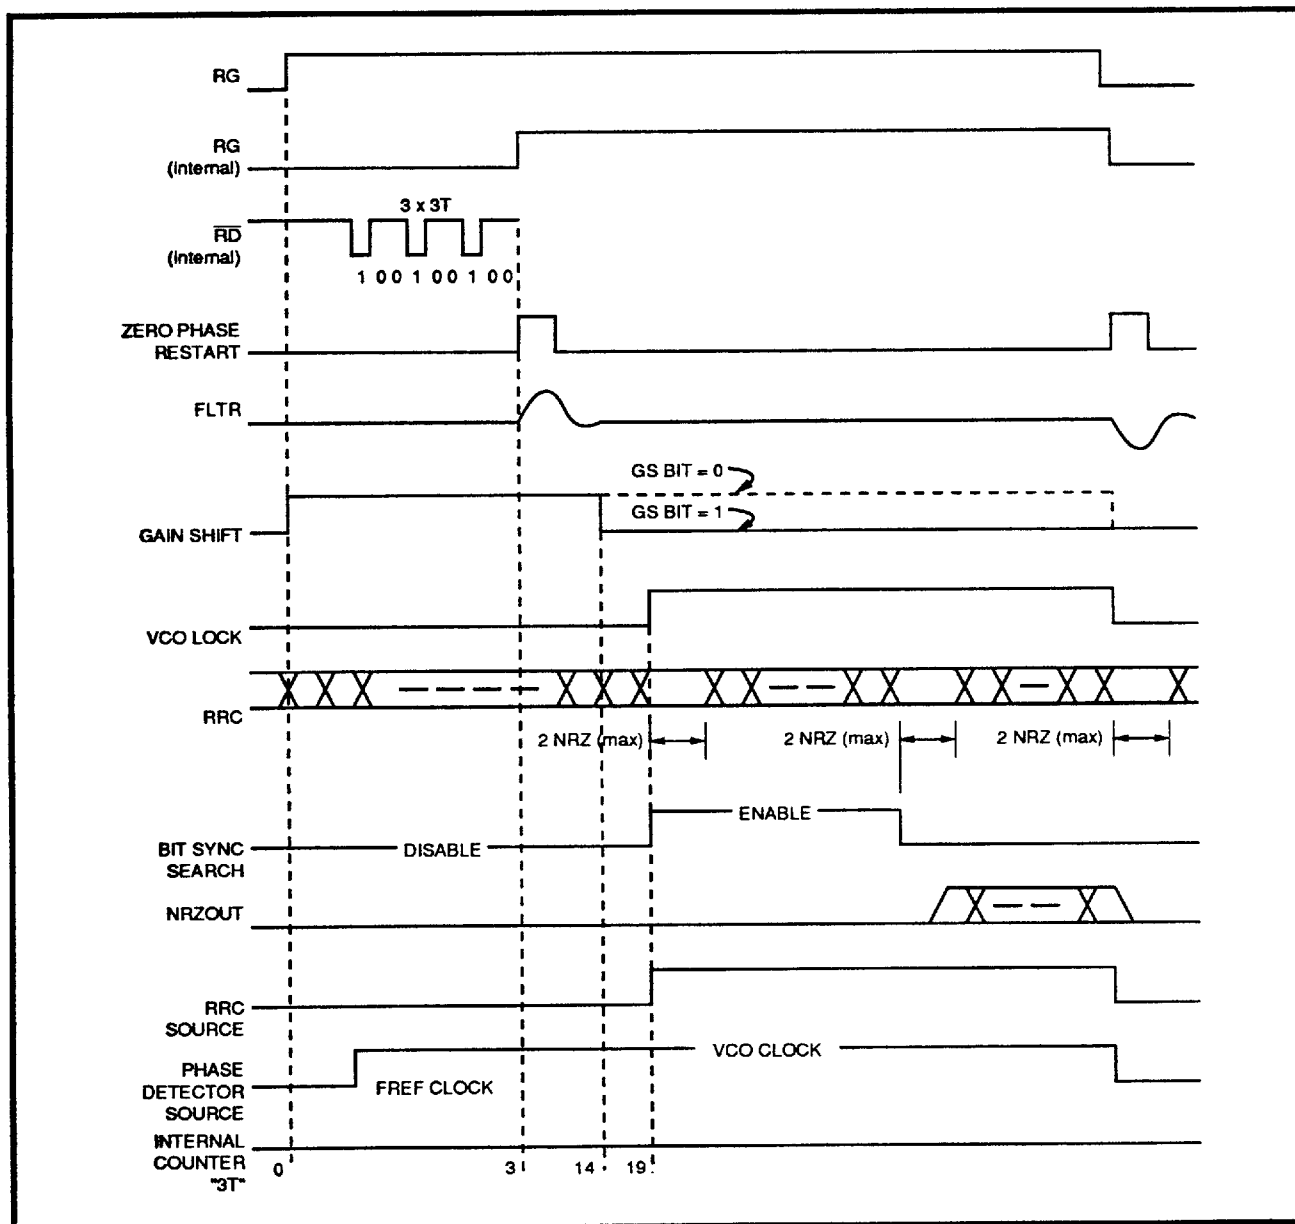

FIGURE 14: Read Mode Locking Sequence
After the address mark (AM) has been detected, RG can be asserted to initiate the preamble search. When RG is asserted, an internal counter is triggered to count positive transitions of the incoming read data,  $\overline{RD}$ . Once the counter reaches count 3 (3 consecutive 3T patterns detected) the internal read gate is enabled. This switches the phase detector reference from the internal time base to the delayed read data ( $\overline{DRD}$ ) signal. At the same time an internal zero phase restart signal restarts the VCO in phase with the  $\overline{DRD}$ . This prepares the VCO to be synchronized to data when the bit sync circuitry is enabled after VCO lock is established, See Figure 14 for reference.